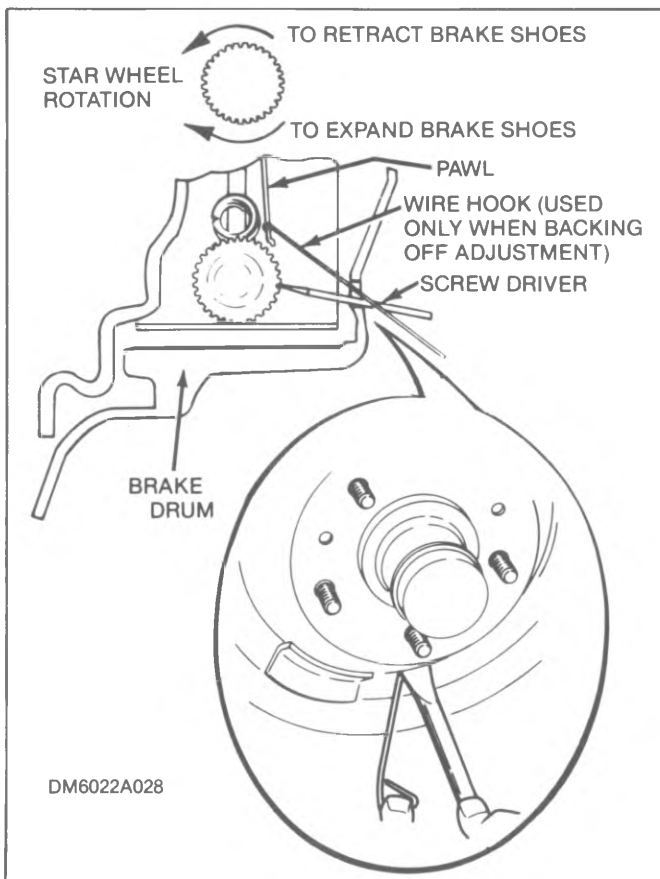
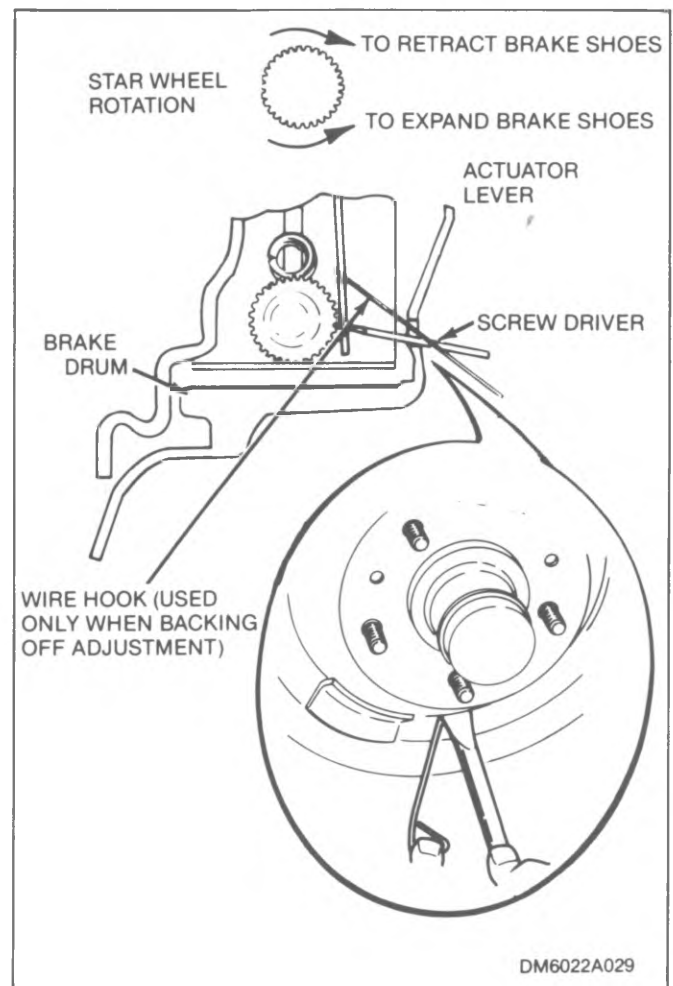

Figure 3-7. Manual Adjustment Through Brake Drum—Apply Actuated Adjuster
Figure 3-8. Manual Adjustment Through Brake Drum—Release Actuated Adjuster
3. **ADJUSTMENT THROUGH BRAKE DRUM.** To expand the brake shoes, use a screwdriver to turn the star wheel in the direction shown in figure 3-7 (apply actuated adjuster) or figure 3-8 (release actuated adjuster). Expand the shoes to produce a heavy drag on the wheel. To retract the brake shoes, use a wire hook to move the pawl or actuator lever away from star wheel (see figure 3-7 or 3-8), back off star wheel approximately 30 notches.